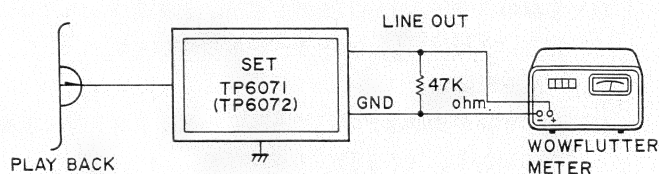

Figure 21
- (1) Make the connections as shown in Figure 21 and turn the power ON.
- (2) Ground TP6071, insert the test tape MTT-111N (3 kHz, -10 dB) into deck A and play it back. Adjust VR6072 so that the line output becomes 6.000 Hz when the tape is played back.
- (3) Ground TP6072 as in (2) for TP6071, insert the test tape into deck B and adjust VR6074 so that the line output becomes 6.000 Hz when the tape is played back.
- (2) Insert test tape MTT-111N (3 kHz, -10 dB) into deck A and play it back. Adjust VR6071 so that the line output during playback becomes 3.000 Hz i.e. that the wow and flutter is 0.12% (JIS WTD) or less.
- (3) Insert the test tape into deck B as in deck A and adjust VR6073 so that the line output becomes 3.000 Hz when the tape is played back. Make sure that the wow and flutter at that time is 0.12% (JIS WTD) or less.